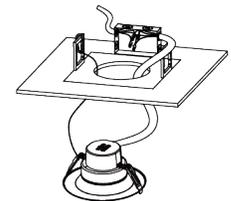

Fig. 4
- Insert the pre-installed flexible conduit attached to fixture into the junction box and wire according to the above wiring diagram. Re-attach junction box cover when complete (Fig. 4).